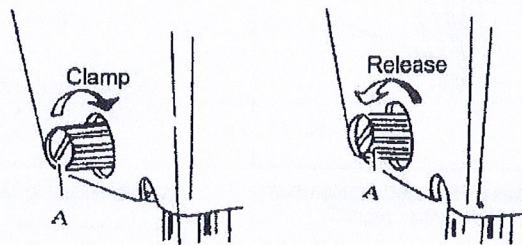

Figure 15
12. Locking unit for linear stitching (see Figure 15)